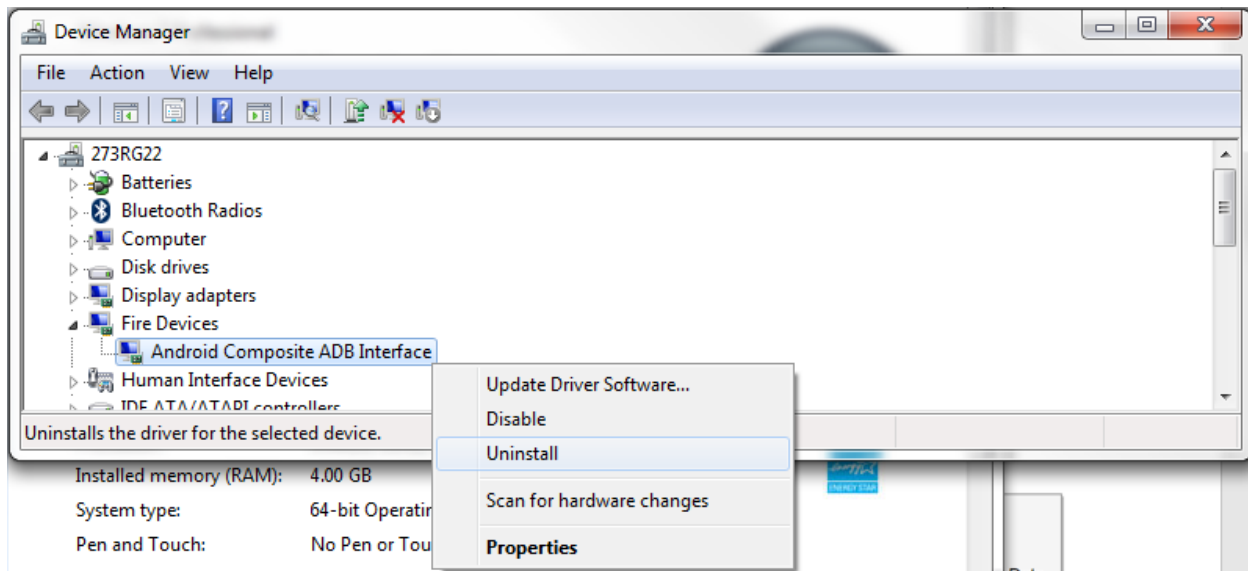

Figure 50, Uninstall Any Drivers present for your Android Device.
- a. Using the Windows Device manager, uninstall any drivers the computer has installed for the Kindle Fire (Figure 50).